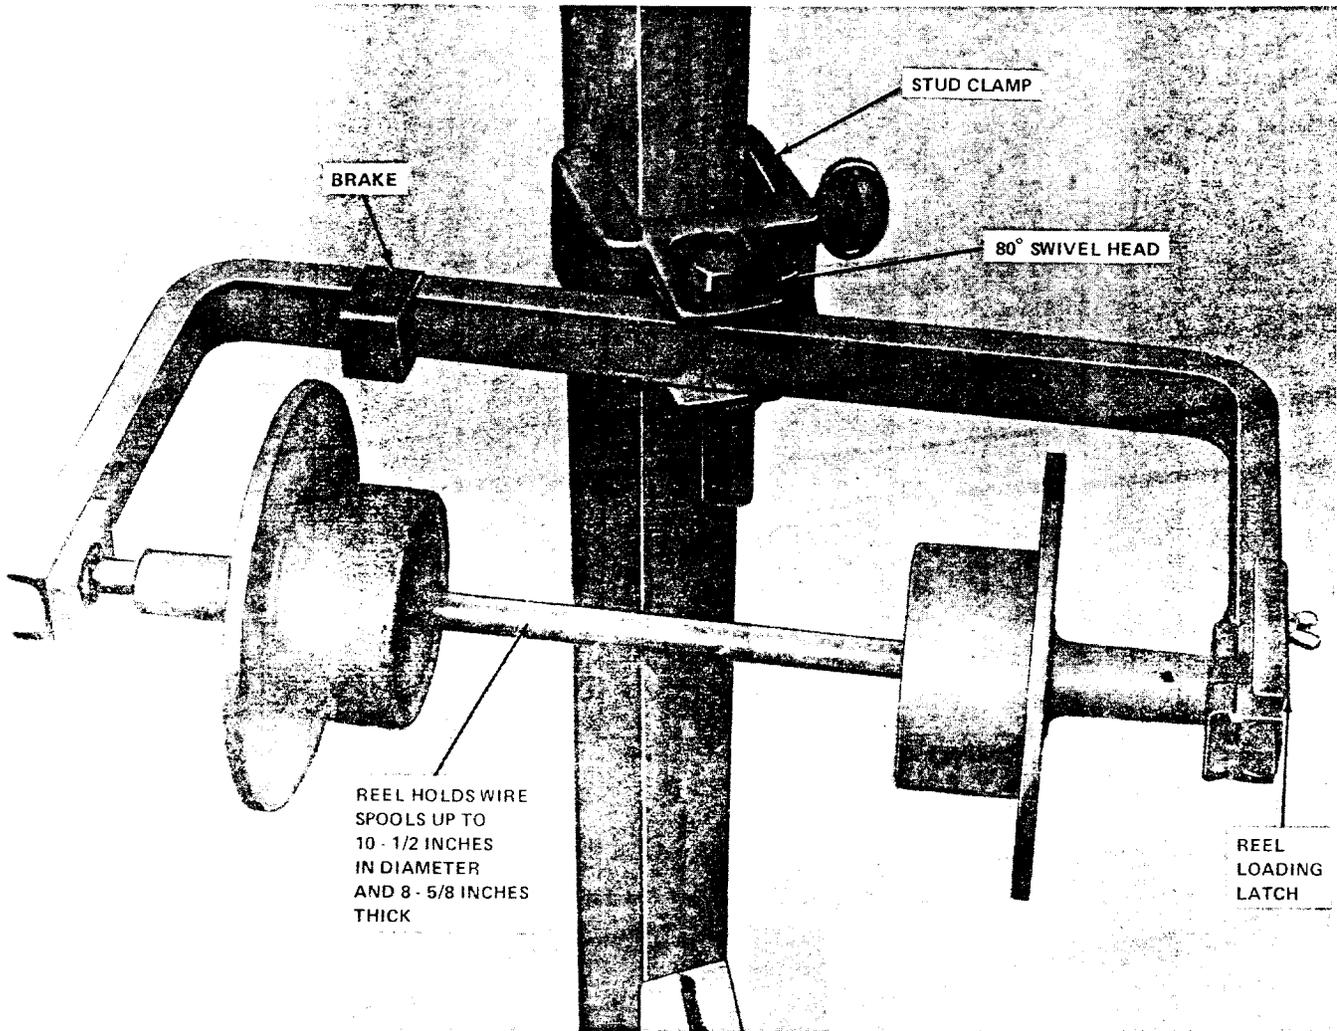

Fig. 5—AT-8903 B Station Wire Reel Mounted on Stud
3.02 The H station wire or 4-pair D inside wiring cable can be dispensed more efficiently with the AT-8903 B station wire reel (Fig. 5). Clamp B station wire reel to post, stud, or beam. Remove cardboard spool of wire from carton, place it within flanges of B station wire reel, and dispense as needed.